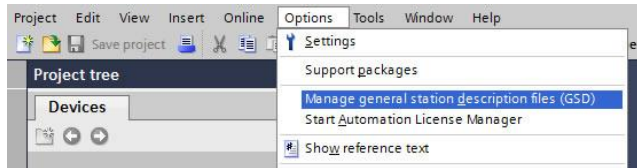

Figure 62: Install GSD File Menu Option
1. Open the TIA Portal project. Navigate to **Options...Manage general station description files (GSD)** as shown in Figure 62.